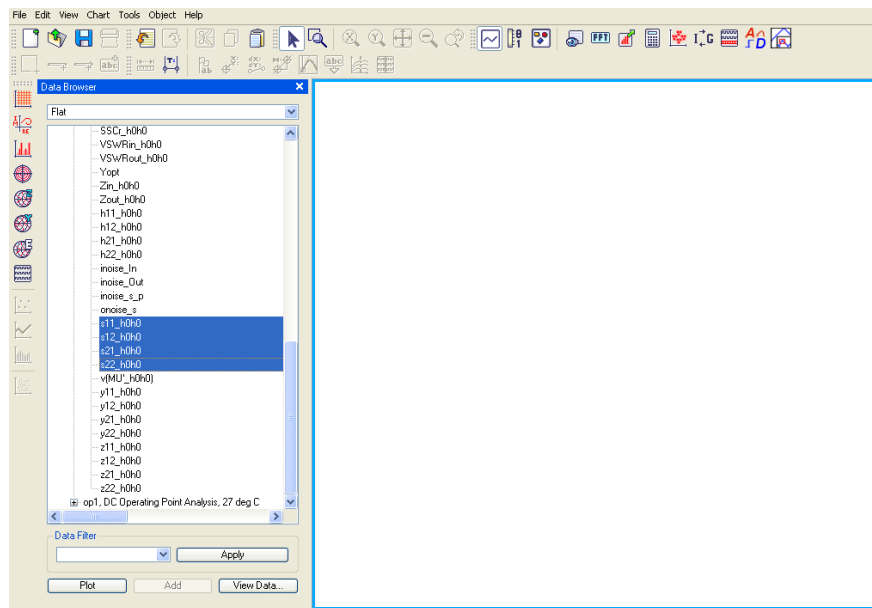

Figure 8: SmartView Data Browser Window
3.1: Open `hnet1` plot, then select vectors `s11_h0h0`, `s12_h0h0`, `s21_h0h0`, `s22_h0h0`, and click **Plot** (see Figure 8).